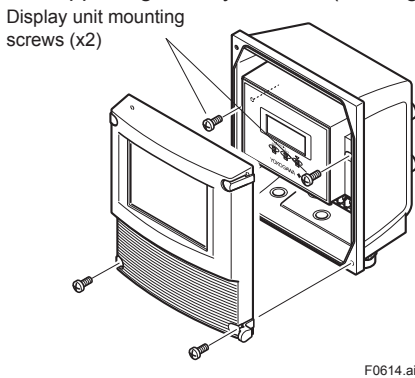

Figure 6.3.5 Removing Mounting Screws of Display Unit
(1) Loosen the two display unit mounting screws while supporting it with your hand (See Figure 6.3.5).